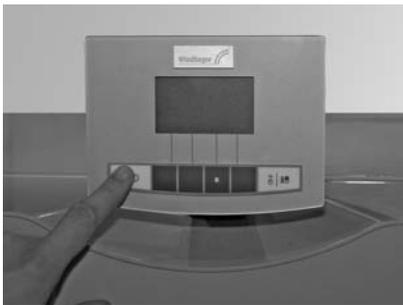

Fig. 137 Switching off BioWIN
- Switch off the BioWIN with the ON/OFF button on the InfoWIN (Fig. 137) and wait until the display has gone out.